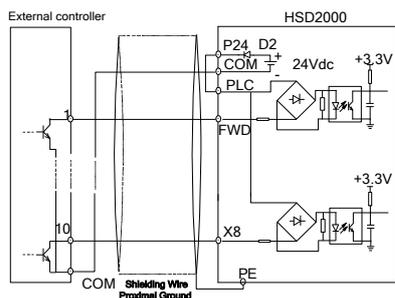

Figure 4-17: Internal +24V Power Supply Servo Drive Source Connection
1) The servo drive internal + 24V power supply shall be used. The external controller connection mode is NPN common emitter output. It is shown in figure 4-17: